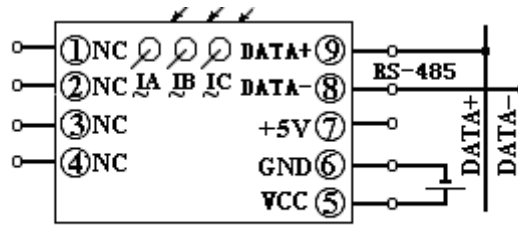

Fig. 3.4.4.3 Connections of CE-AI32, S3 case style.
**3.4.4.2** See Fig. 3.4.4.4 for connections of CE-AI12 — 1 element treble isolation AC current digital transducer. N case style.